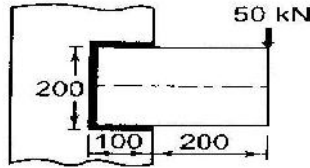

Fig 3.
- b) A welded connection of steel plates is shown in **Fig 3**. It is subjected to an eccentric force of 50 kN. Determine the size of the weld, if the permissible shear stress in the weld is not to exceed 70 N/mm²